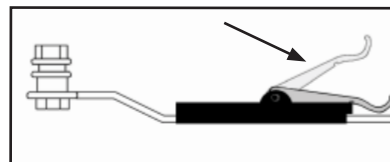

Figure 6A
- Push down on the Cam Locks (Figure 6A) to secure the hinges.